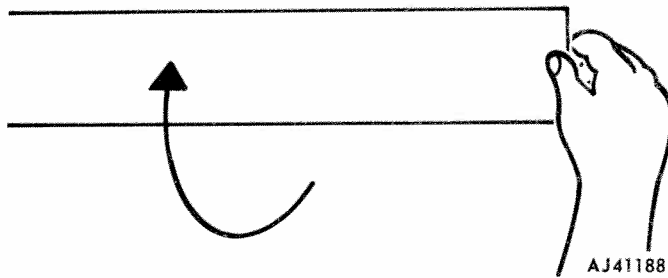

Fig. 20-3 Lifting Decal
(4) Swing decal up using strips of masking tape as hinges (fig. 20-3).